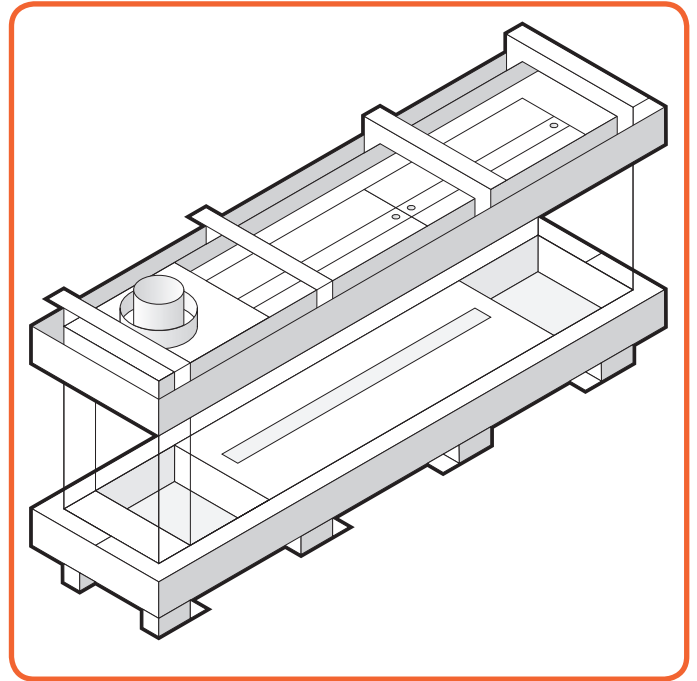

Figure 10.14 -
10.1.5 Mounting and dismantling cover strips of the Summum 140 4S (See figure 10.14.)